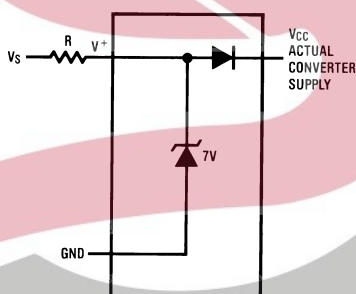

Figure 24. An On-Chip Shunt Regulator Diode
A unique feature of the ADC0838-N and ADC0834-N is the inclusion of a zener diode connected from the  $V^+$  terminal to ground which also connects to the  $V_{\text{CC}}$  terminal (which is the actual converter supply) through a silicon diode, as shown in Figure 24(1).
- (1) Internal zener diodes (6.3 to 8.5V) are connected from  $V^+$  to GND and  $V_{\text{CC}}$  to GND. The zener at  $V^+$  can operate as a shunt regulator and is connected to  $V_{\text{CC}}$  via a conventional diode. Since the zener voltage equals the A/D's breakdown voltage, the diode insures that  $V_{\text{CC}}$  will be below breakdown when the device is powered from  $V^+$ . Functionality is therefore ensured for  $V^+$  operation even though the resultant voltage at  $V_{\text{CC}}$  may exceed the specified Absolute Max of 6.5V. It is recommended that a resistor be used to limit the max current into  $V^+$ . (See Figure 24 in Functional Description)